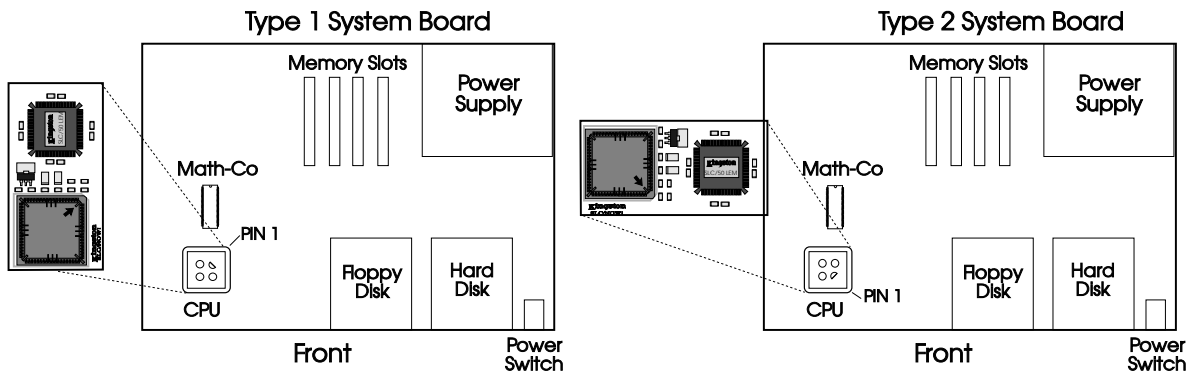

Figure 4. IBM PS/2 Models 25-286 & 30-286 Systems
12. If you have an 80287 coprocessor installed, this must also be removed. Locate the 80287 coprocessor as shown in figure 4 and insert the IC removal tool under the corner of the chip. Gently pry upwards, repeat for all four corners. Once the pins have been sufficiently exposed remove with your fingers. (Save the 80287 coprocessor in the event you need to temporarily return to the old configuration.)